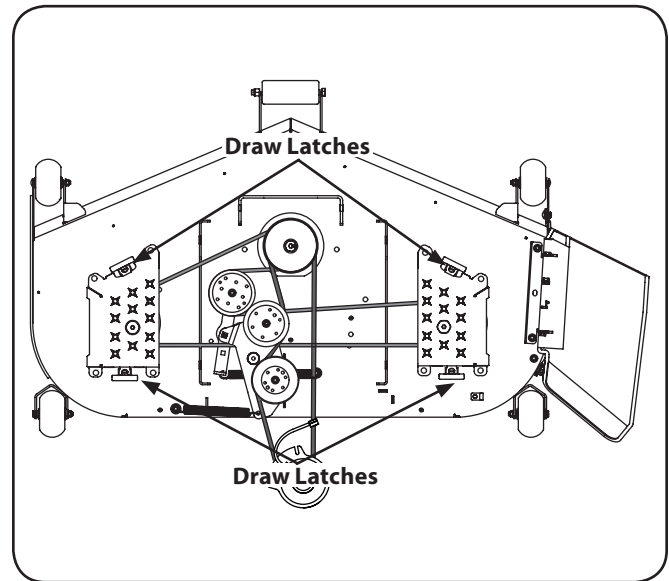

Figure 7-9
- Pull the four draw latches up and away from the deck covers to unlatch and remove both covers. See Fig. 7-9.